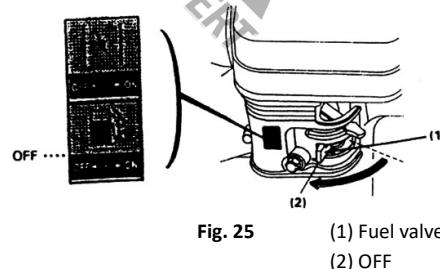

Fig. 25
- 4) Turn the fuel valve to the OFF position. (Fig. 25)